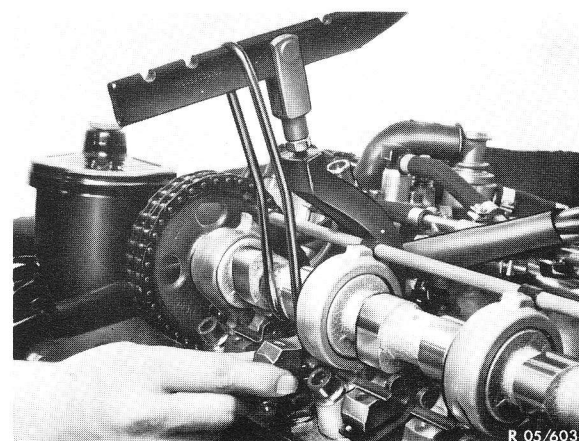

Fig. 3
- 4 Position removal and installation tool against camshaft and on valve spring retainer and push valve downwards to relieve the rocker arm (Fig. 3). The rocker arm should not be under load.